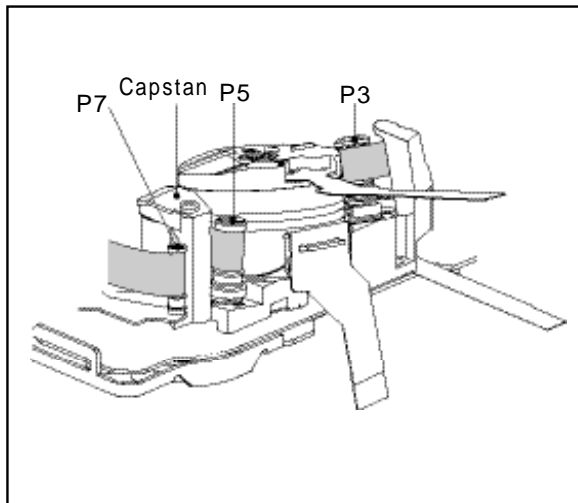

Fig 2-15
2. Set to playback mode, and confirm that the waveform of PB RF signal rises flat within 3 seconds. Also confirm that the tape is not twisted or curled around the Pinch Roller.(Fig 2-15)